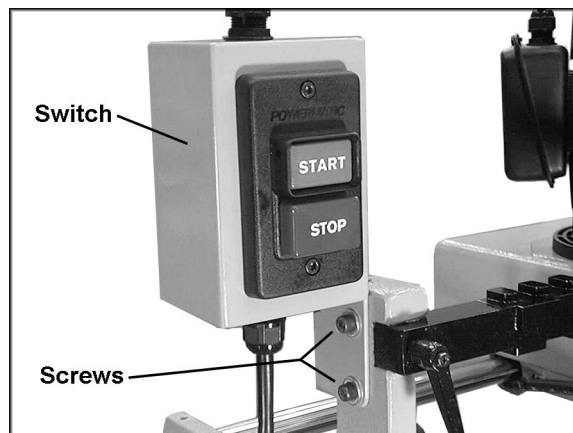

Figure 4
2. Remove the two socket head cap screws from their holes on the left side of the frame with a 5mm hex wrench. See Figure 4.
3. Place the flange of the switch box over the holes, and re-insert the two socket head cap screws, as shown in Figure 4.